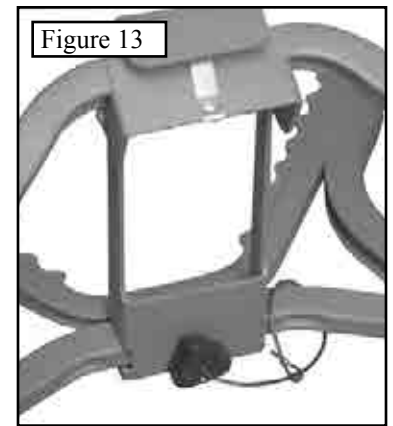

Figure 13
Step 1. Following Section 1, Part 3 - Pivot the base down and secure with the large tethered knob as shown in **Figure 13**.